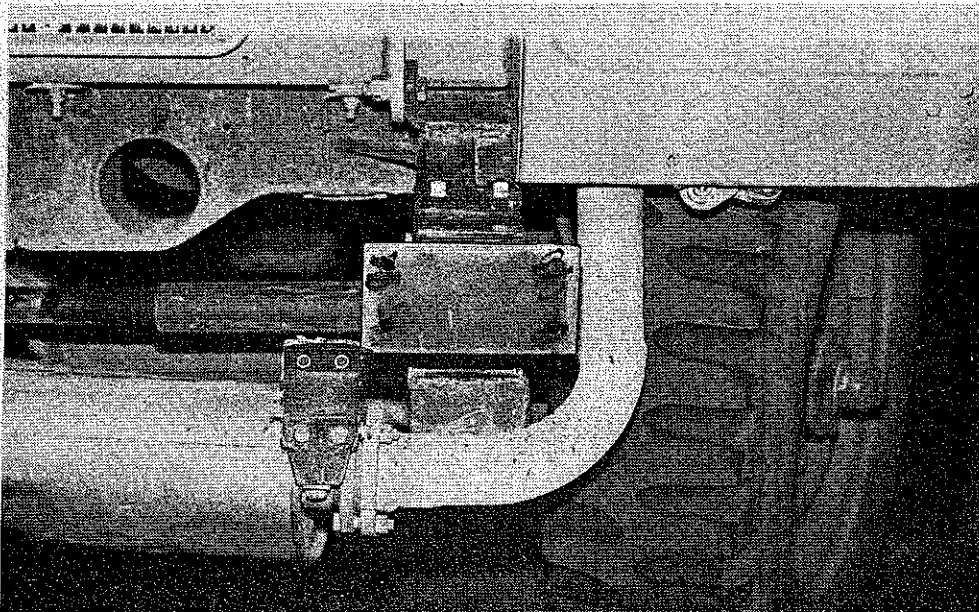
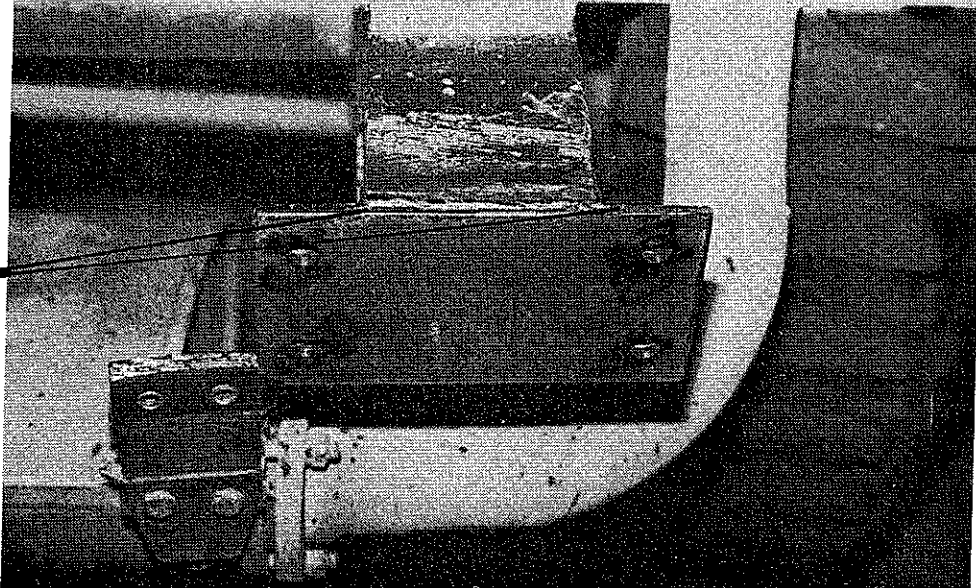

FIG 6 - REINFORCEMENT PLATE CORRECTLY POSITIONED ON THE END OF THE LH BUMPER BAR MOUNTING BRACKET
FIG 7 - REINFORCEMENT PLATE WELDED IN POSITION
- k. Position one plate against the end of each mounting bracket as shown in Fig 6. Using either of the methods identified in sub-paragraph 7f, weld all round as shown in Fig 7.
1. If necessary grind back the top welds as shown in Fig 7 to permit the bumper bar to be refitted.